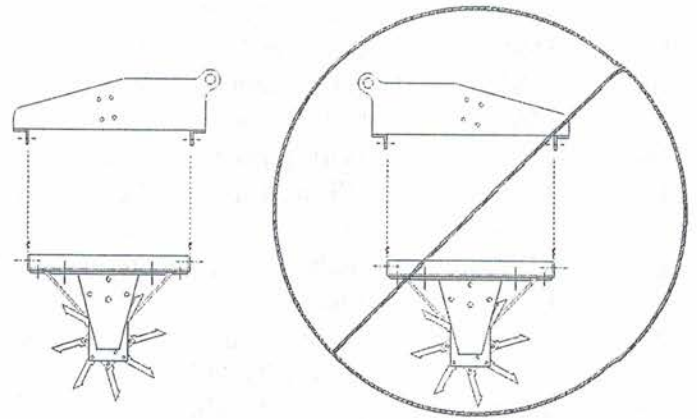

FIG. 4
5. Remove aerator from its box and attach main pivot frame to it using eight $\frac{1}{2}$ " x $1\frac{1}{4}$ " carriage bolts and whizlock nuts provided. Orient round head to the inside of the aerator frame. Also note orientation of tines to pivot frame (tines furthest away from mount point of assembly should have the cutouts to the bottom). These eight bolts can be tightened. **FIG. 4 & 5**